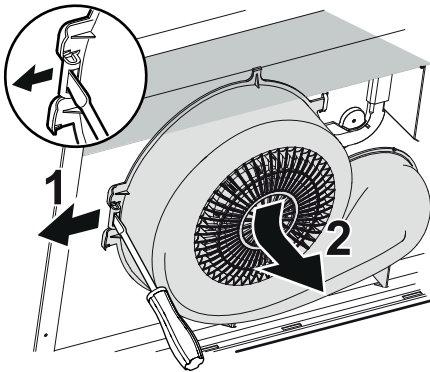

Fig. 4
Release the blower by bending the snap retainer outwards in the direction of the arrow (1) and pushing the housing away from you and down (2), Fig. 4.